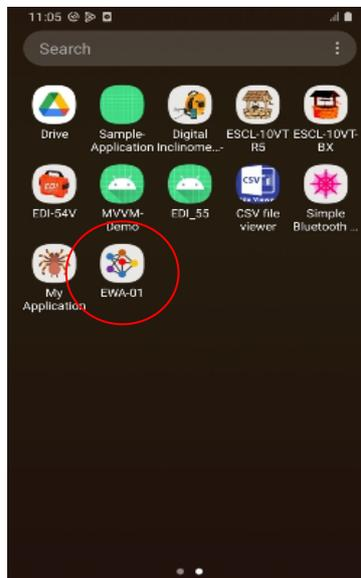

Figure 5-4
- Install the apk file (provided with the supply) for “EWA-01” app on the phone. App shortcut will be available in the list of application software, as shown in Figure 5-4.